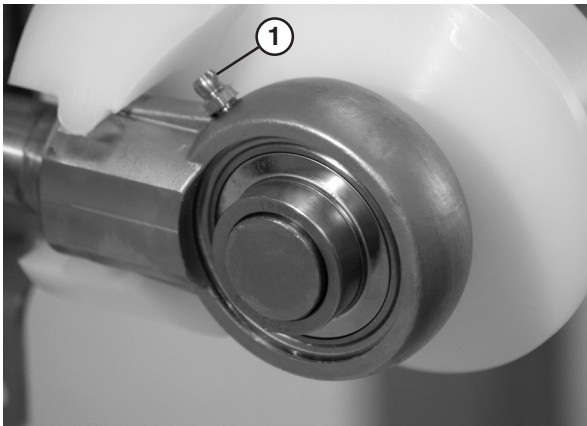

Figure 45
1. Add grease to the bearing using the zerk fitting (**Figure 45, item 1**) on the exterior of the bearing shaft assembly.